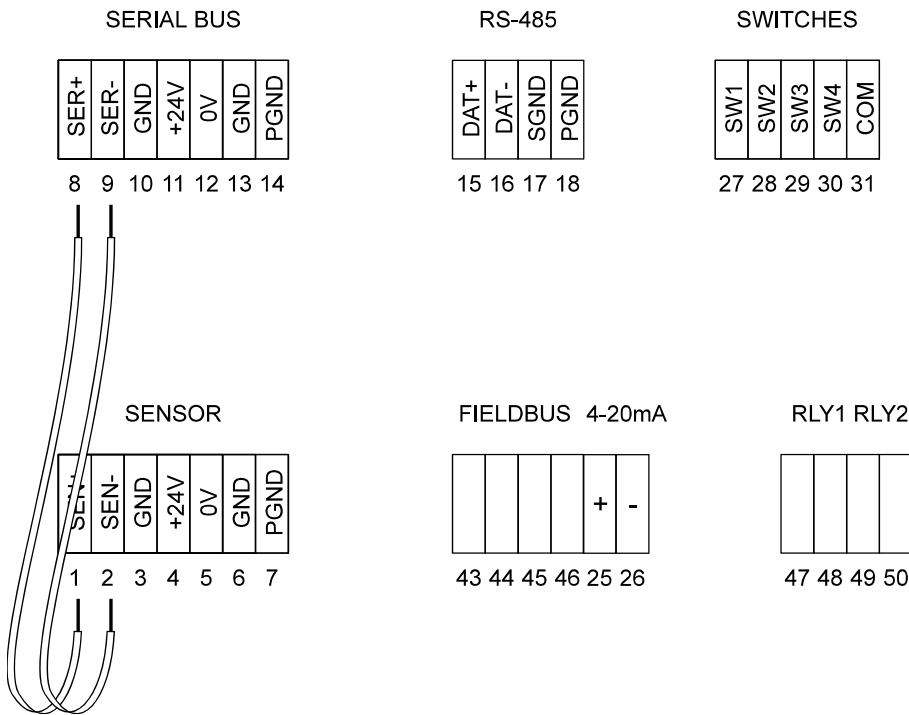

Figure 4.30 Demo connection.
- b. Connect terminal 1 to 8, and terminal 2 to 9, Figure 4.30.